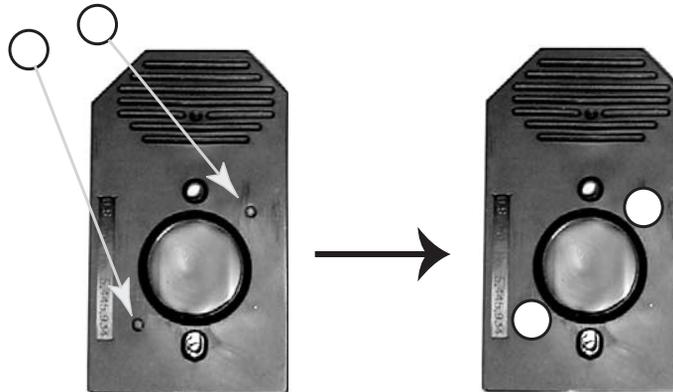

Figure 5.16 Applying Tough-Spots® to the array cartridge
1. Cover the septa on each array with a Tough-Spot (Figure 5.16).